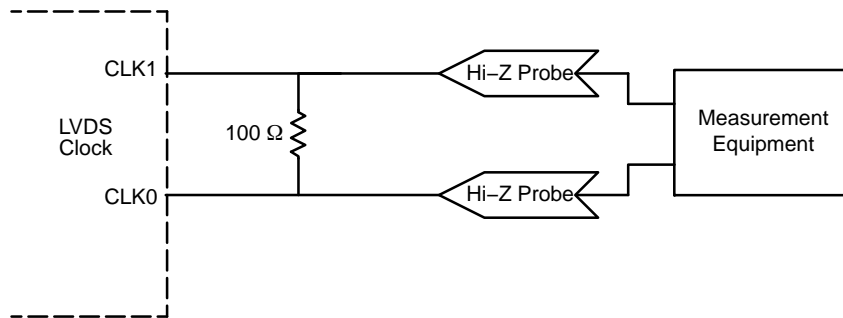

Figure 9. LVDS Parameter Measurement
13. LVDS outputs require 100  $\Omega$  receiver termination resistor between differential pair. See Figure 9.